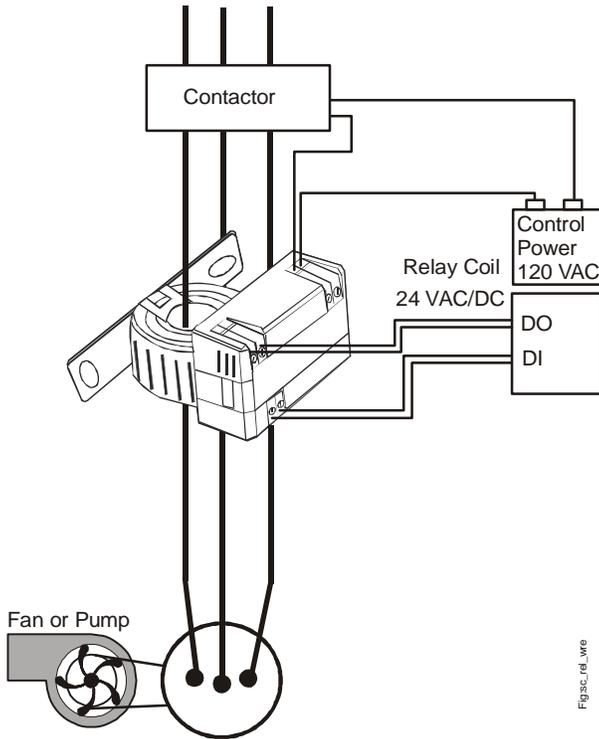

Figure 2: Model CSD-SA1E1-1
3. Wire the CSD/Command Relay as shown in Figure 2.
- Reconnect the power to the conductor cable (see Figure 2).